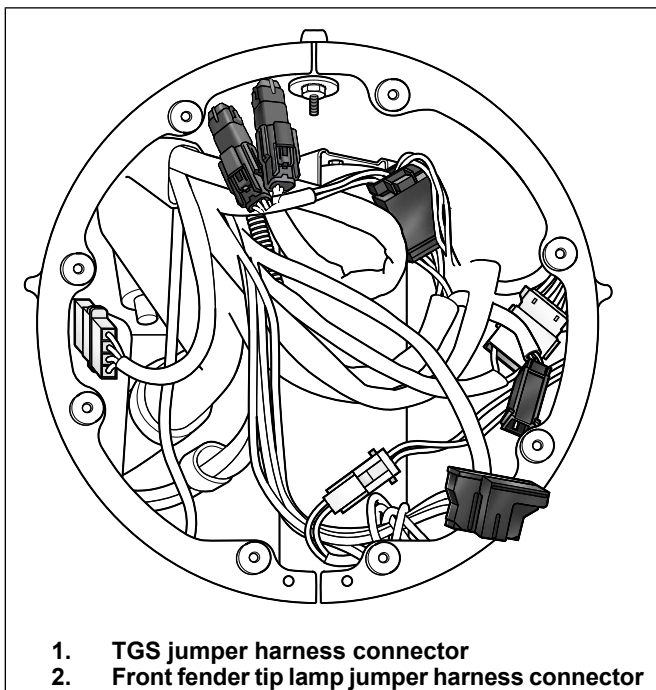

Figure 8. Road King Headlamp Wiring
- a. See Figure 8. Locate fender tip light wiring.
- a. See Figure 8. Locate fender tip light wiring (2).
5. See Figure 8. Connect TGS connector half from right hand grip to harness connector half (1).